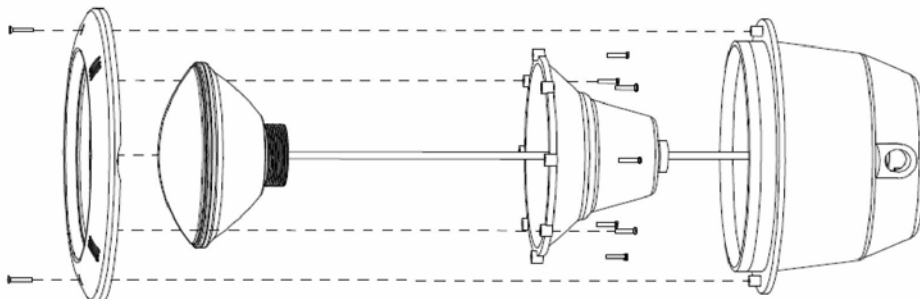
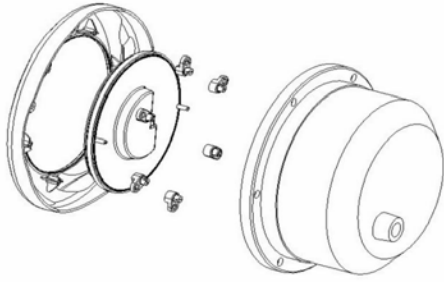

Figure 10
Figure 11
2. Unscrew the nuts on the back of the light assembly to allow the bottom clamp to be removed from the light fixture. (See Figure 10 and Figure 11).
① REPLACING A PAR56 BULB